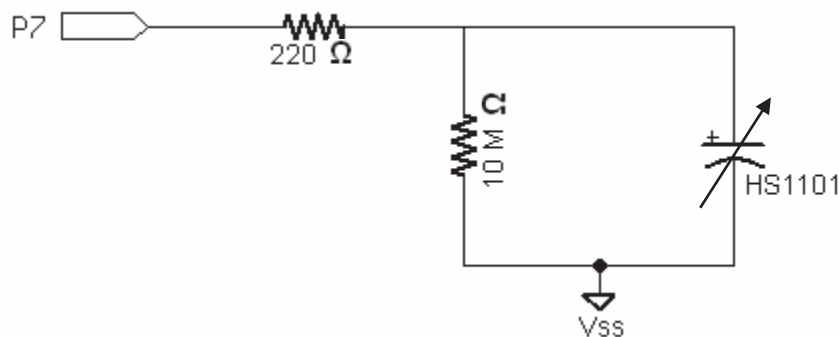
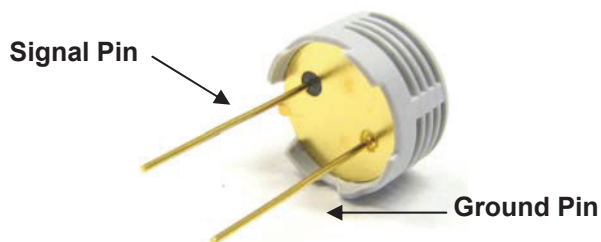

Figure 1: Sample RC Application Circuit
Figure 2: Signal and Ground Pins
Connecting the HS1101 to a microcontroller is demonstrated here with a BASIC Stamp module. It is a straightforward application, requiring only one I/O pin. Since the HS 1101 is based on a unique capacitive cell, relative humidity can be obtained using a simple RC wiring diagram, as shown in Figure 1.
- ✓ Build the circuit shown in Figure 1. Be sure the negative side of the sensor is connected to ground as shown in Figure 2!